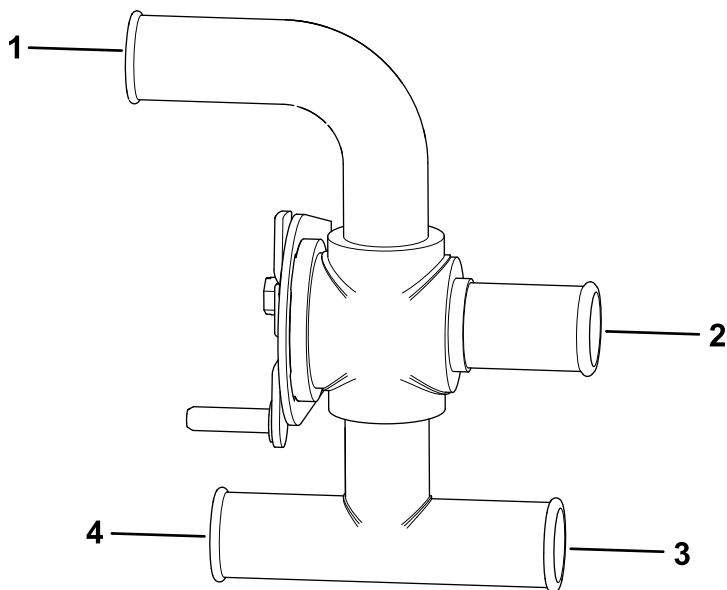
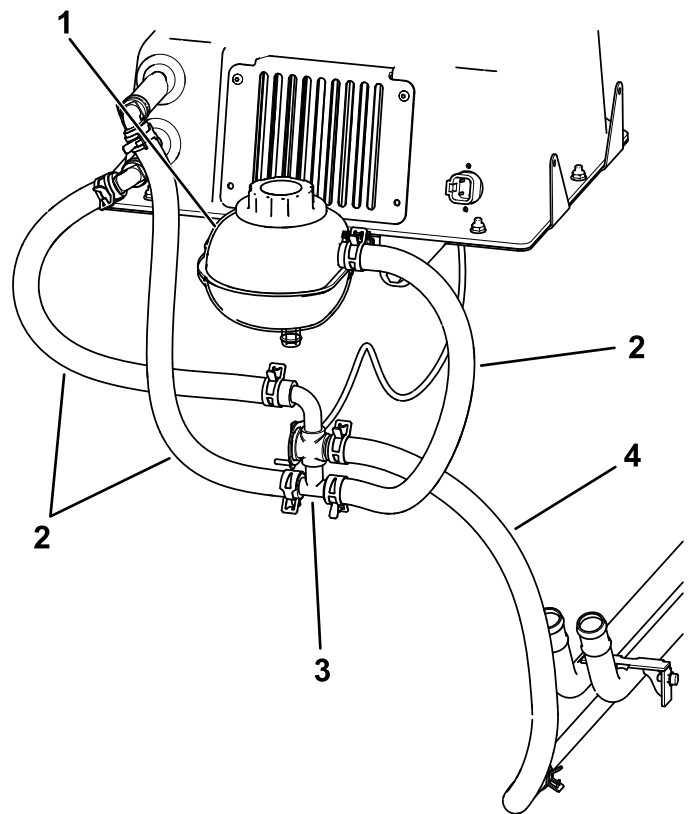

Figure 21
Figure 22
2. Connect the 2 coolant hoses that were previously installed to the heater box to their appropriate ports on the water valve with 2 band clamps (Figure 21).
Note: If a BOSS snowplow is installed on the machine, route the heater core lower hose (Figure 21) around the plow solenoid.
3. Connect the previously shortened thermostat bypass hose to the water valve with a band clamp (Figure 21 and Figure 22).
4. Connect the remaining hose to the water valve with a band clamp, then connect the other end of the hose to the large port on the upper reservoir with a band clamp (Figure 21 and Figure 22).